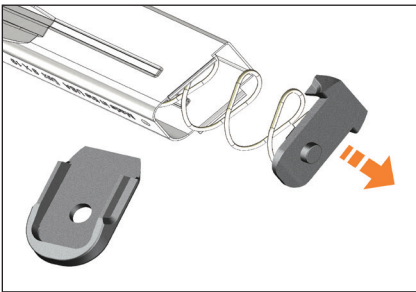

Figure 31
4. Gradually allow the locking plate and magazine spring to expand out of the magazine housing (see Figure 31).